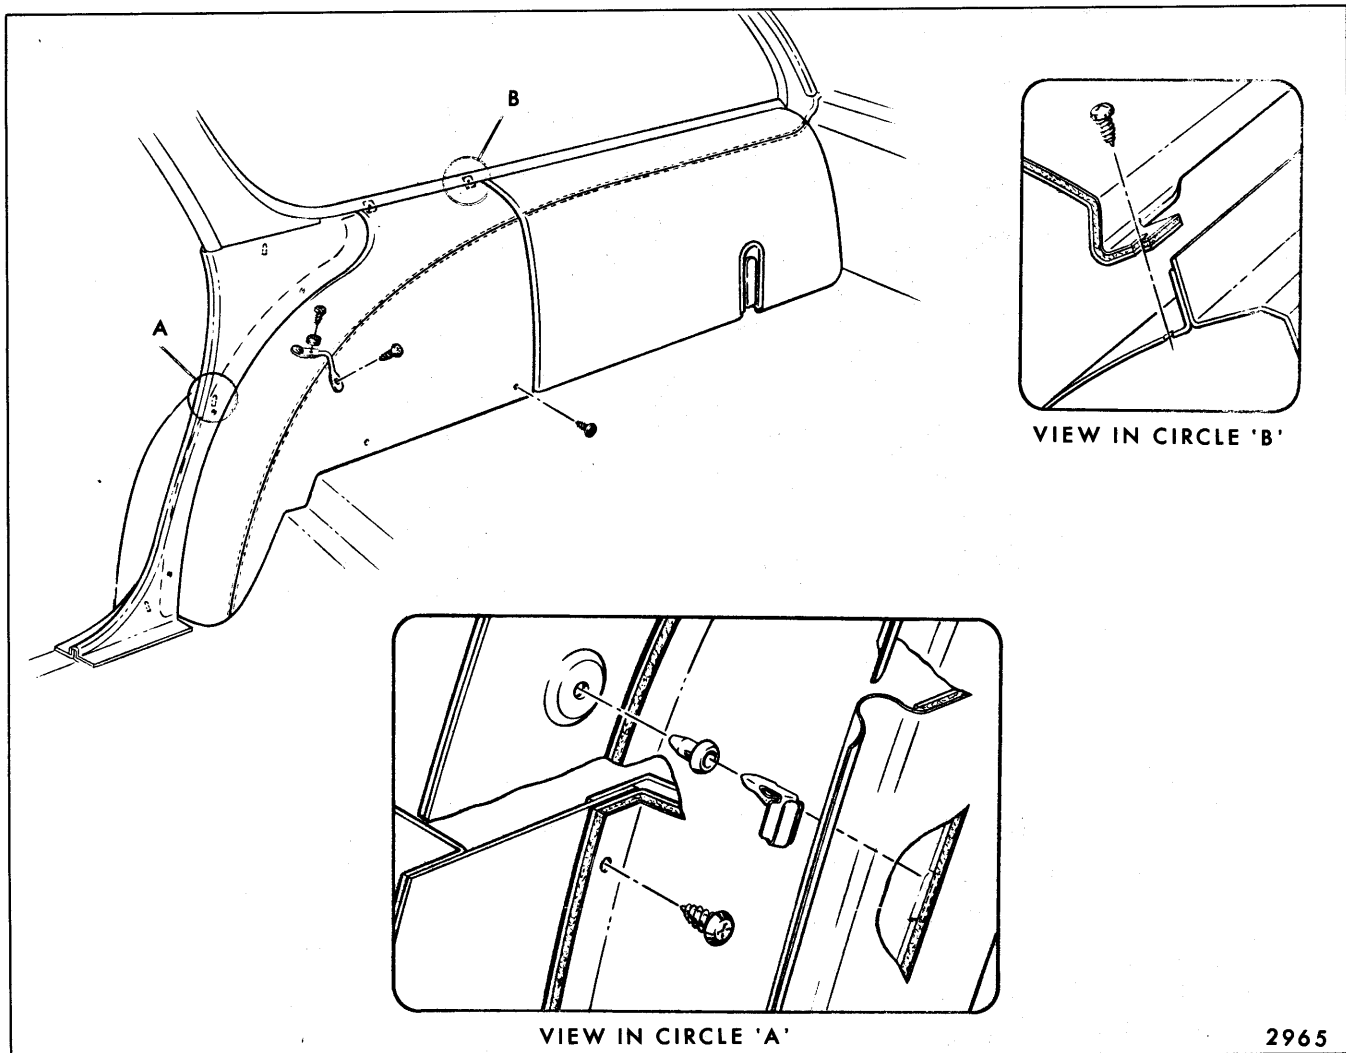

Fig. 14-32—Wheelhouse Cover Panel (Right Side) - "A" Station Wagons
3. Remove all trim attaching screws at front, rear and bottom of wheelhouse trim panel and remove panel (Fig. 14-32).